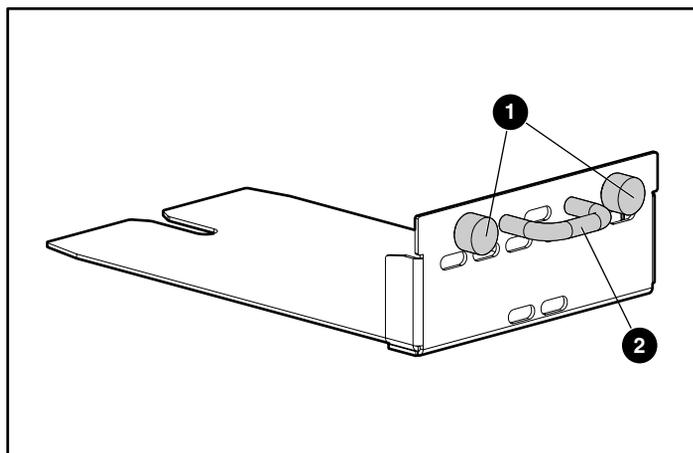

Figure 127: Thumbscrews and handle on an I/O module or blank module
2. Loosen the thumbscrews ❶ on the I/O module or blank module shown in Figure 127 in a counter-clockwise rotation.
3. Holding the handle ❷ shown in Figure 127, pull out the I/O module or blank module until it has completely cleared the I/O bay.